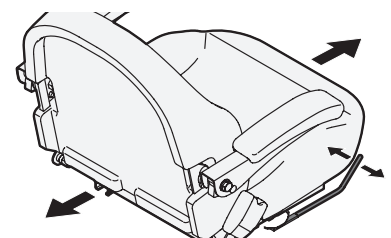

Figure 22
3. Release the adjustment lever. Ensure seat is locked into position before operation. See Figure 22.